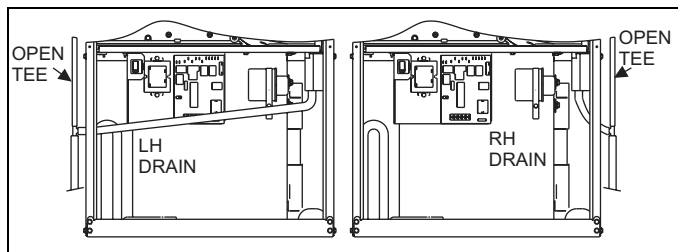

FIGURE 20: Condensate Piping
3. **VENTILATED COMBUSTION AIR:** Combustion air is supplied through a PVC or ABS pipe that is connected to the PVC coupling attached to the burner box and is terminated in a ventilated attic or crawl space. The combustion air and the vent pipes are not terminated in the same atmospheric zone. Refer to Figure 20 for attic and crawl space termination. Only the combustion air intake may terminate in the attic. The vent must terminate outside.
Refer to Figure 20 for required attic termination for the combustion air intake pipe. For attic termination, use two 90 elbows with the open end in a downward position. Be sure to maintain 12" (30 cm) clearance above any insulation, flooring or other material.